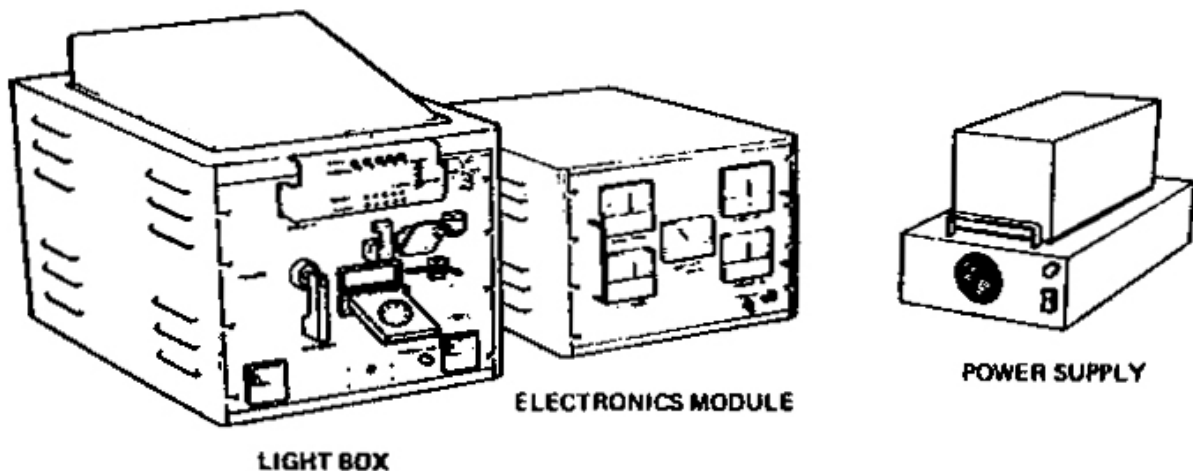
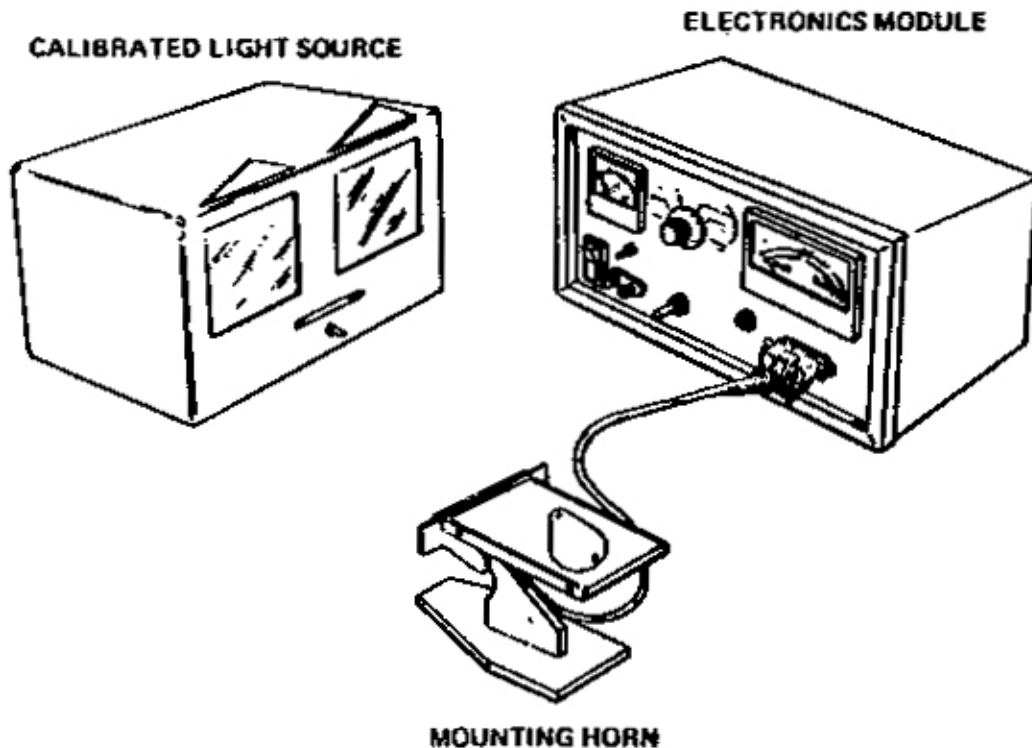

Figure 3-6 Comprehensive tester
Figure 3-7 Model B Camera tester
3. Comprehensive Testers (Figure 3-6 and 3-7)
There are two models of Comprehensive Testers available for semi-automatic testing of the SX-70 camera. The earlier model, Comprehensive Tester Model A, consists of three interrelated units : the lightbox, the electronics module, and the power supply (Figure 3-6). Comprehensive Tester Model B (Figure 3-7) also consists of three